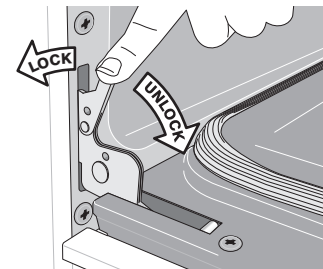

Figure 16: Door hinge locks
2. Pull the door hinge locks on both left and right door hinges down from the oven frame completely towards the oven door (See Figure 16). A tool such as a small flat-blade screwdriver may be required.
4. Push the door hinge locks up towards and into the oven frame on both left and right oven door hinges to the locked position (See Figure 16).